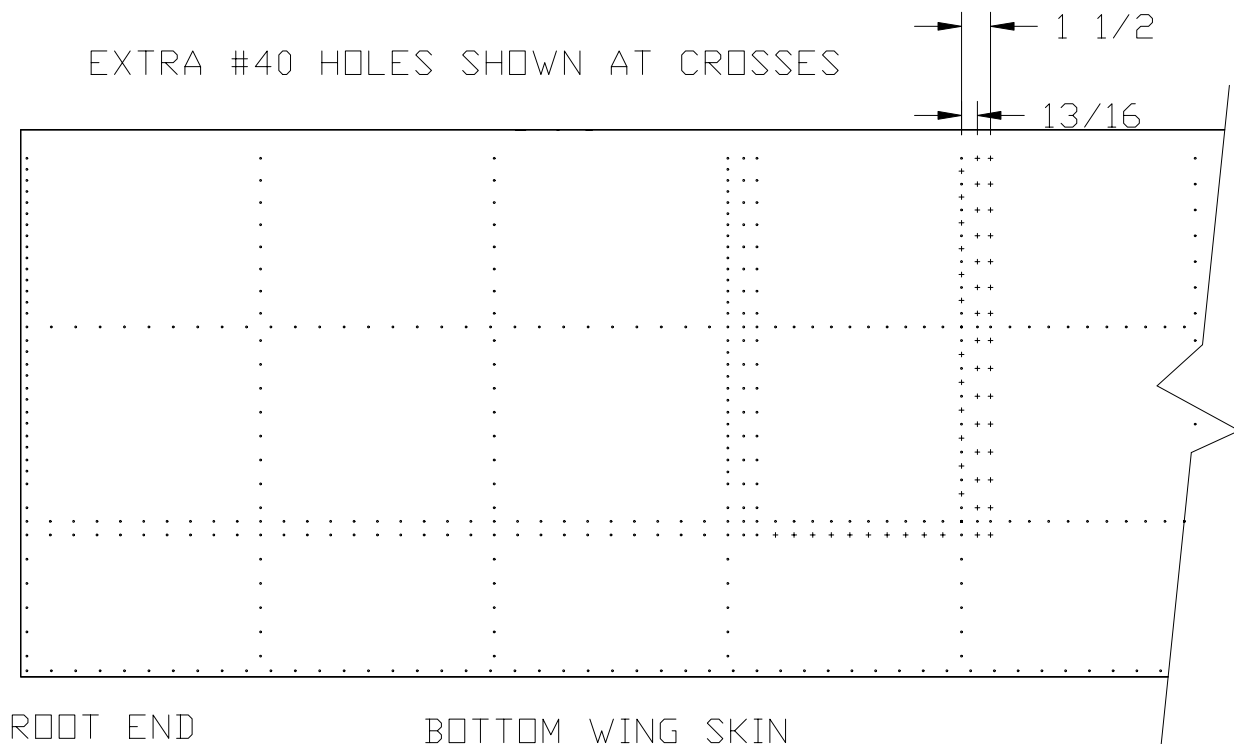
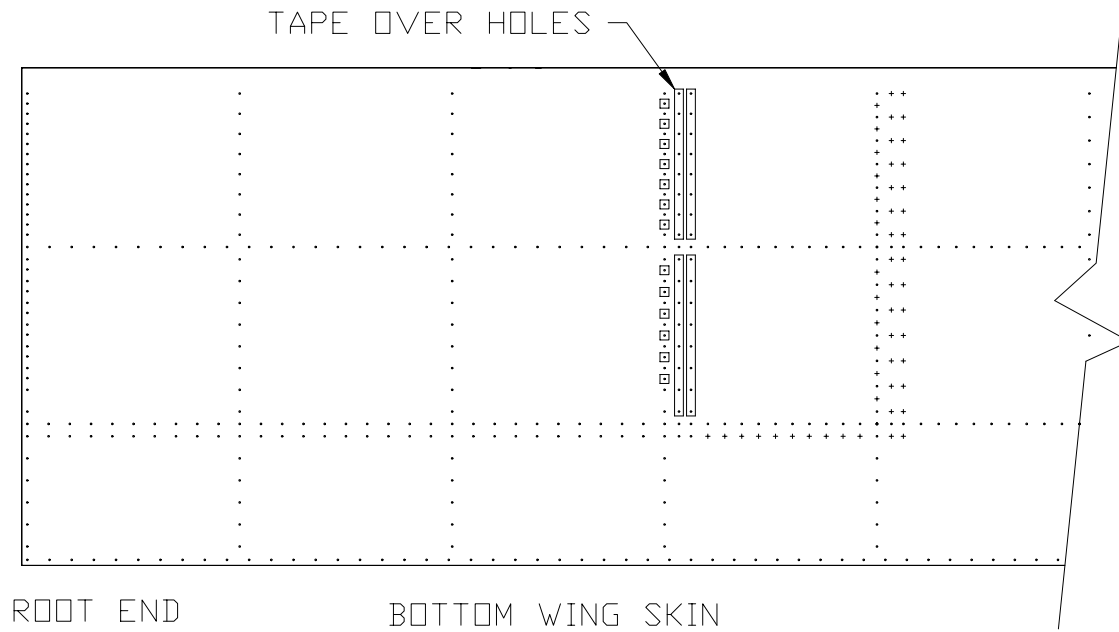

FIGURE 8.29.3
FIGURE 8.29.4
- 3) Repeat steps 1 and 2 for the Bottom Tank Skin as in figure 8.29.3 and figure 8.29.4.